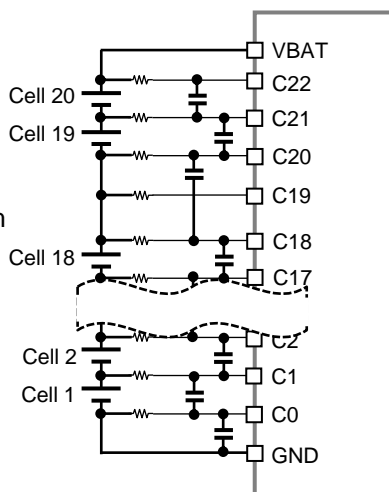

Fig.5.1.2
- 1) For lower cells count system, the unused battery cells pins (C3~C20) should be connected as shown in Fig 5.1.2 / 5.1.3 / 5.1.4